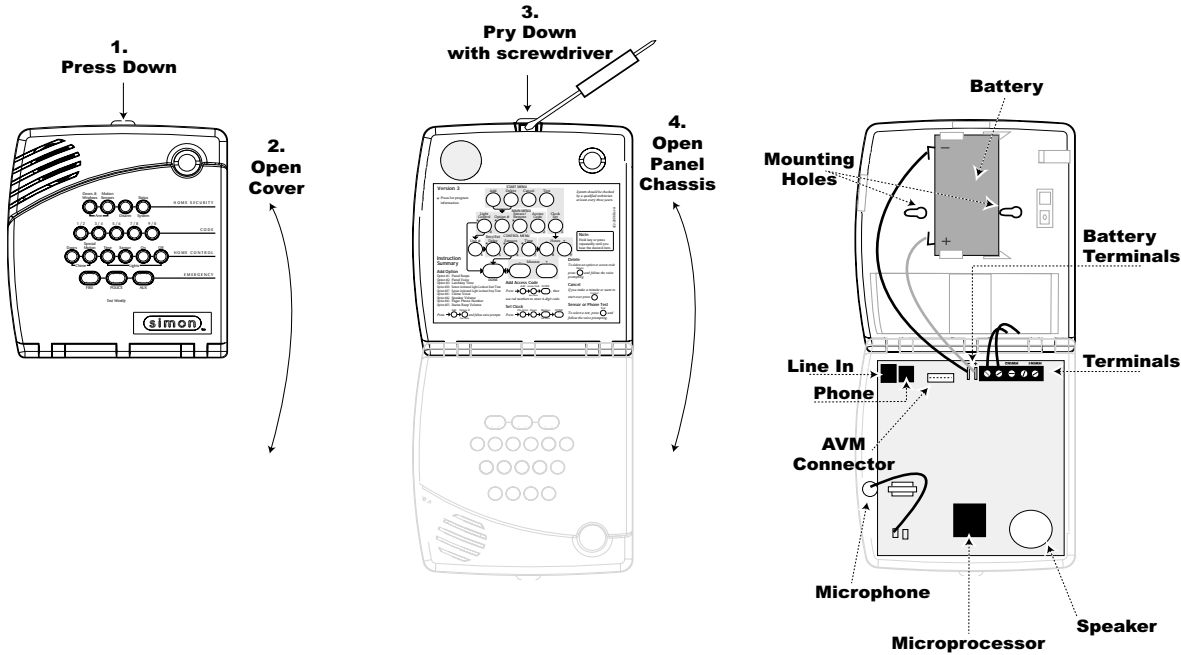

Figure 2. Opening the Panel Cover and Panel Chassis
2. Open the panel cover and panel chassis (see Figure 2). Position the panel on the wall.
1. Open the panel cover and panel chassis (see Figure 2. on page 4).
3. Plug the other end of the phone cord into the panel LINE IN jack (see Figure 2. on page 4).
2. Open the panel cover (see Figure 2).